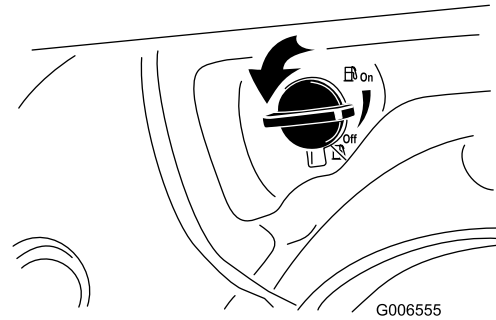

Figure 19
2. Turn the fuel shutoff valve 1/4 turn counterclockwise to open it (Figure 19).